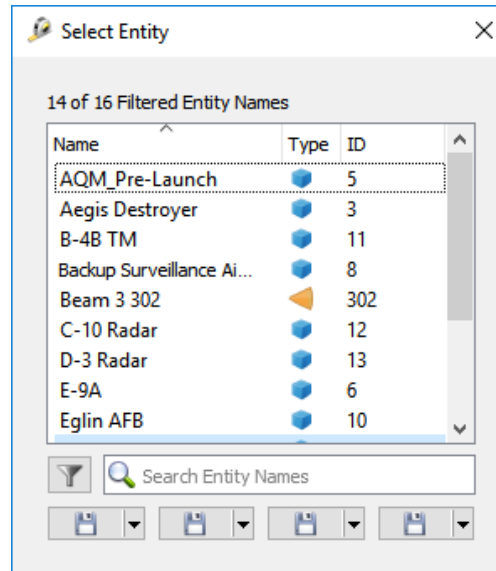

Figure 5.57: Select Entity Dialog
- Click the  button next to **Begin Entity Name** or **End Entity Name** text box to open the **Select Entity** dialog, shown in Figure 5.57.
You can select an entity via the **Select Entity** dialog. Click the  button on the Range Tool toolbar to open the **Select Entity** dialog shown in Figure 5.57